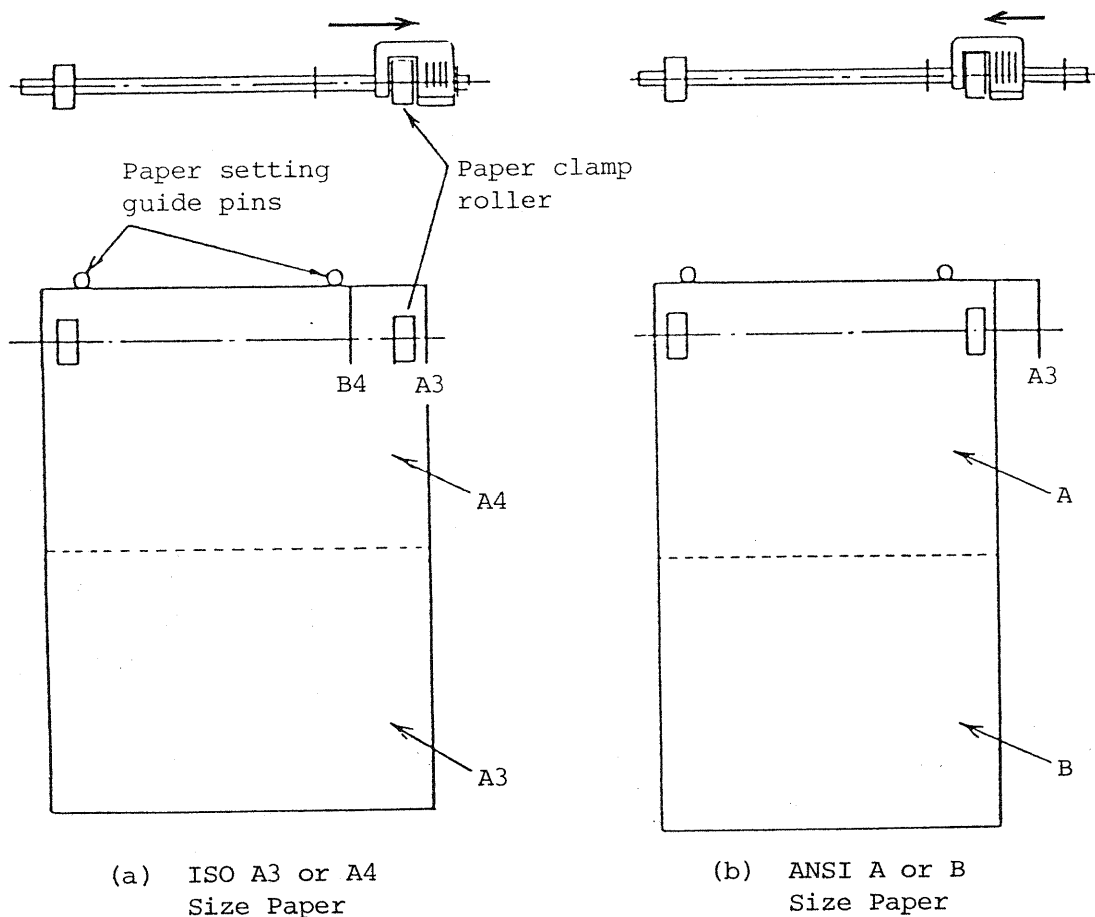

Fig. 4-5 Paper Setting
- (2) Move the paper clamp roller to the right for ISO A3 or A4 size paper, and to the center of movable width for ANSI A or B size paper (Fig. 4-5).
- (3) Set the paper on the platen by aligning the paper top with the paper setting guide pins. When the paper is A3 or B size, the paper top is the short side. When the paper is A4 or A size, the paper top is the long side (Fig. 4-5). Take care that the paper does not wrinkle or loosen.
- (4) Push down the paper-holding knob, and the paper is held. The paper setting is completed.